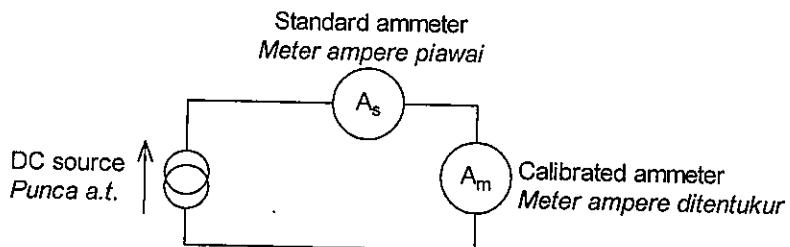

Figure Q1(a)/Rajah Q1(a)
- (b) Figure Q1(a) shows a circuit used to calibrate an ammeter.